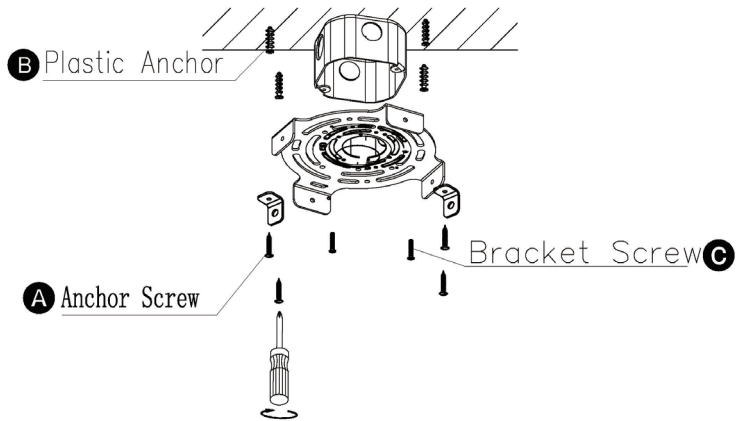

Figure 2
2. Take out Plastic Pin, drill 4 pieces or 6 pieces diameter 6mm holes on the ceiling according to Mounting Bracket. (note: the fixture dia is bigger than 4ft, need 6 pieces holes, 4 for Bracket screw, 2 for safety Bracket screw). Insert the expansion bolts into the holes. ( Use 2 pcs M4\*25mm Screws to fix Mounting Bracket with J-Box). See figure 2.